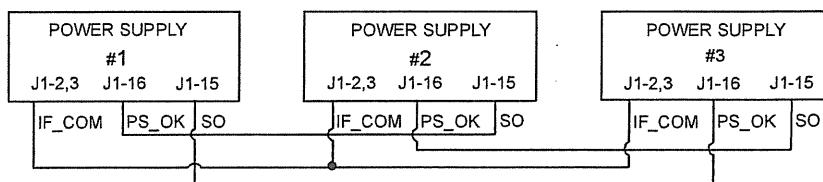

Fig.5-6: Daisy-chain connection
#### 5.15.1.3. Daisy Chain Connection: (See Fig. 5-6)
- f) Connect J1-2 (or J1-3) common to all supplies (See Fig. 5.6).
Fig.5-6 shows connection of three units, however the same connection method applies to systems with a larger number of units.